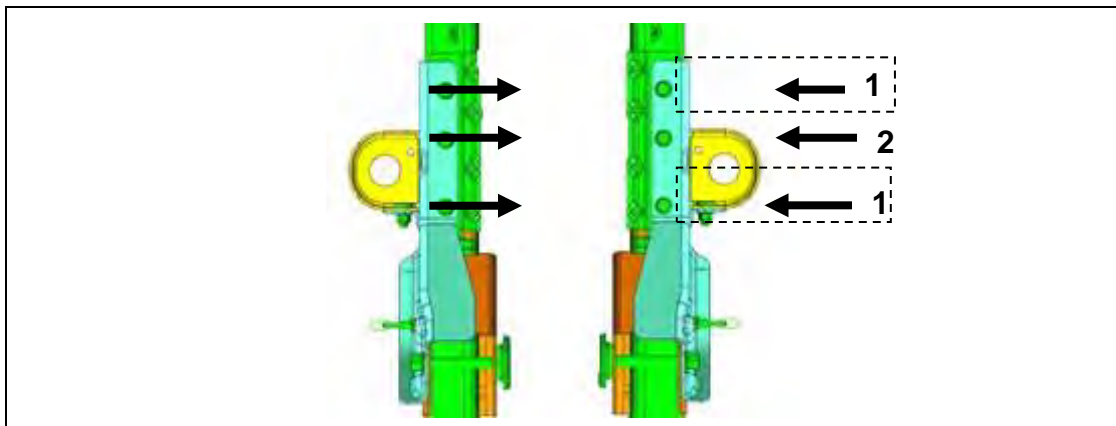

Figure 29 – Drilling Locations
6. Using the 1/4" drill bit guide or equivalent, drill 1/4" pilot holes for six new Pop-nut locations (see Note and Figures 29, 30 and 31 for reference).
NOTE: There is a nut welded into the driver side frame at location 2 in Figure 29. This location is for the fuel tank protector. DO NOT DRILL THIS LOCATION.